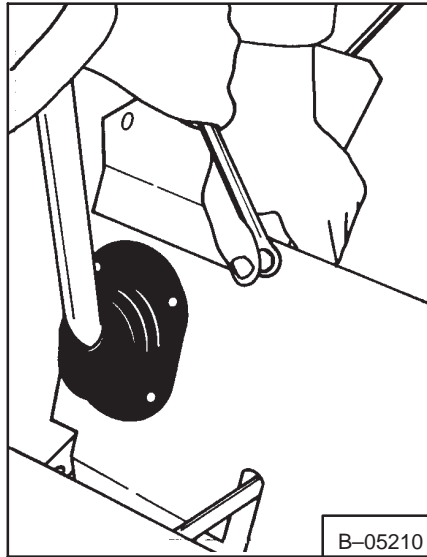

Fig. 3-3 Removing Front Panel
3. Remove the front panel (Fig. 3-3).
7. Install the front panel (Fig. 3-3).